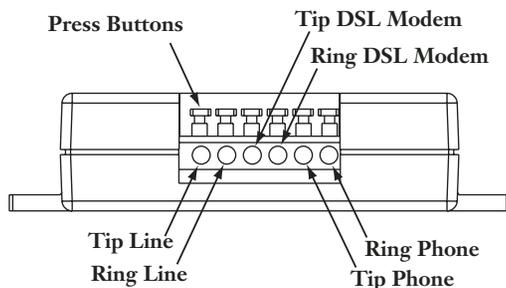

Figure 2 — Insert Wires in Screwless Terminal Block Inputs
Step 2 Press the labeled screwless terminal input buttons and insert the appropriate stripped wire into the hole (Figure 2) per Table 1.